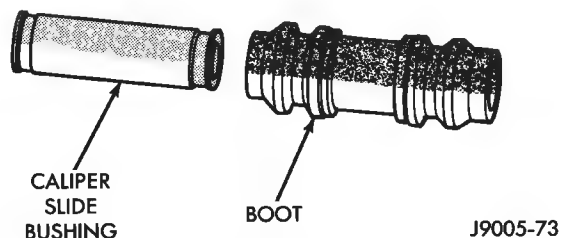

Fig. 19 Caliper Bushing And Boot
(6) Remove caliper mounting bolt bushings and boots (Fig. 19).